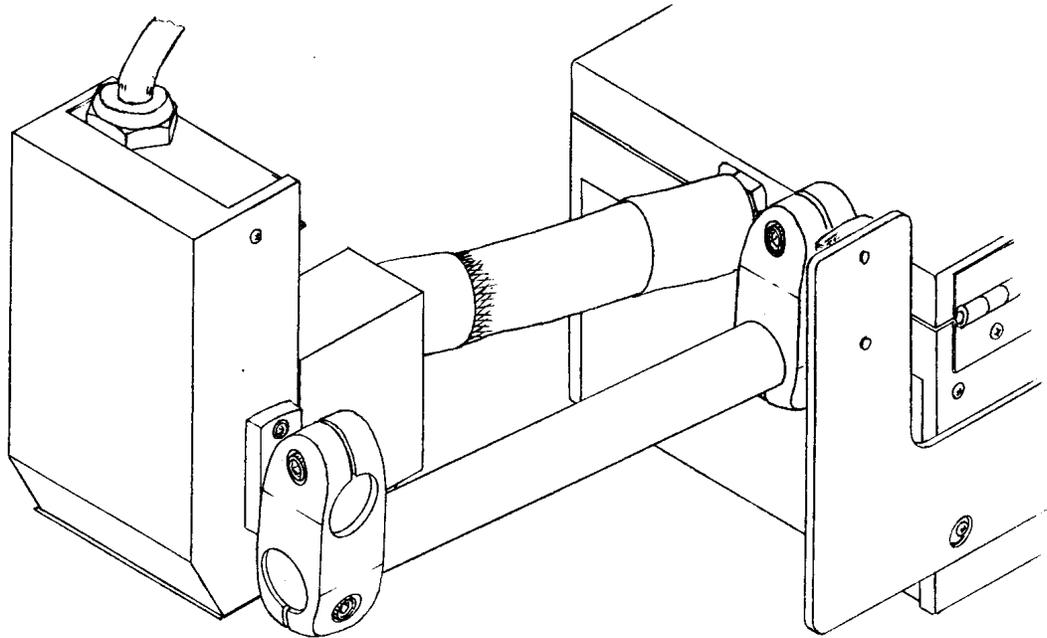

Figure 8-4
2. Support Printhead housing assembly and remove mounting hardware. (Figure 8-4)